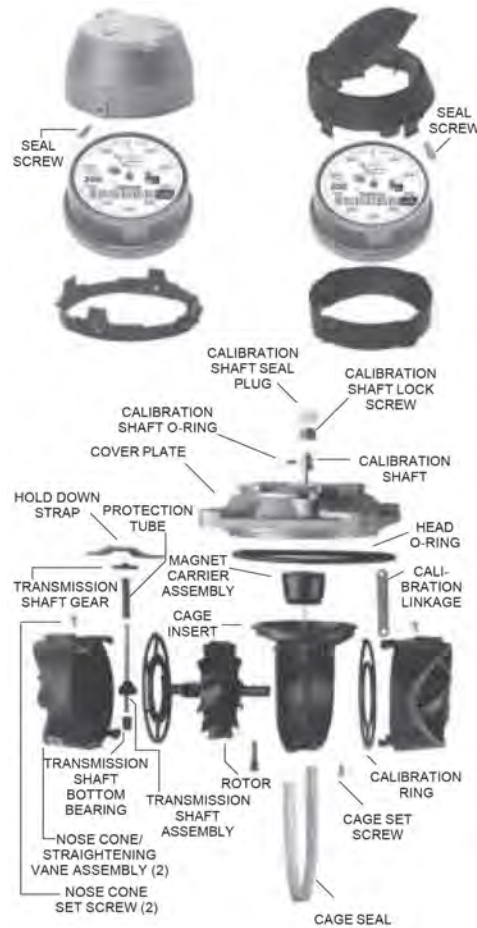
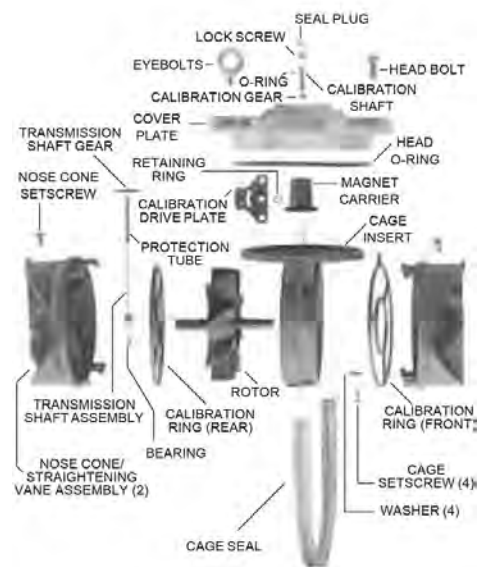
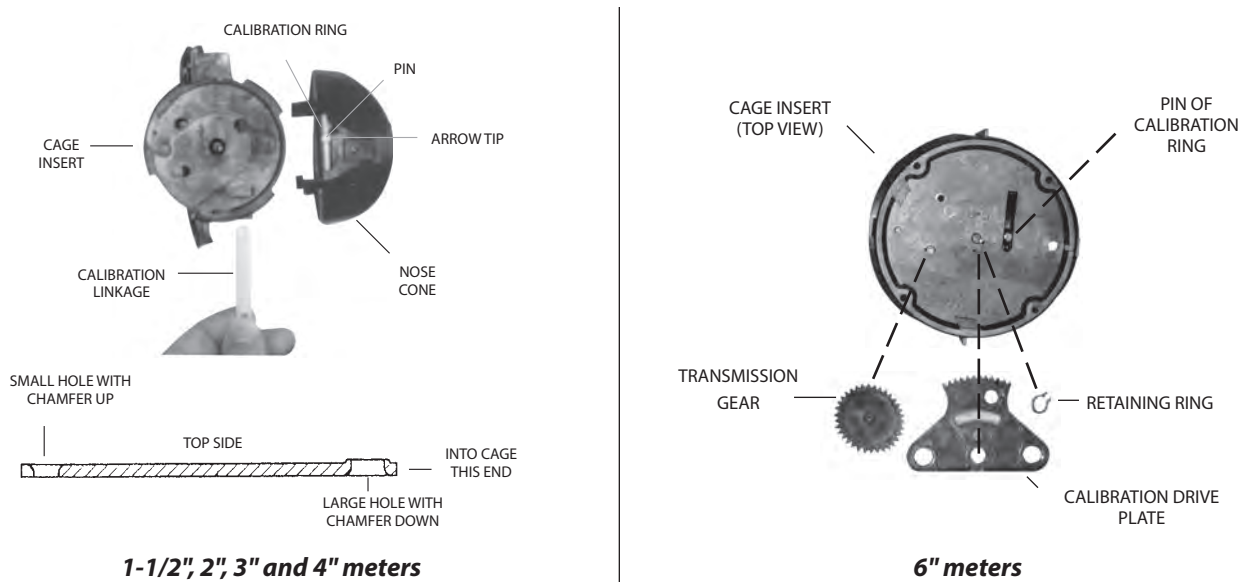
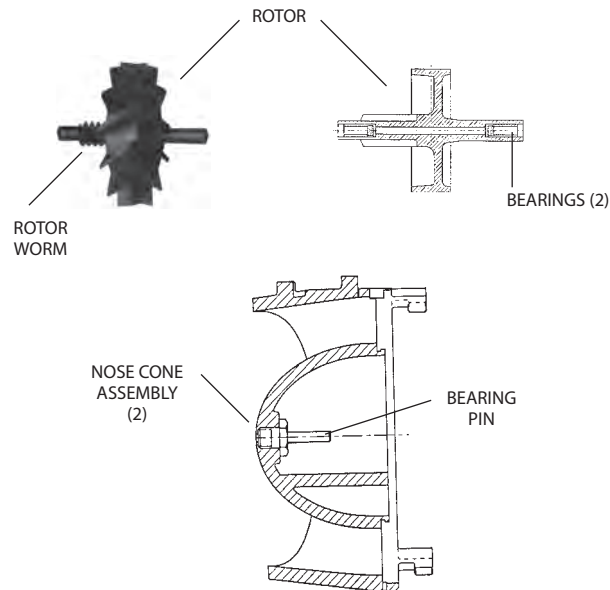

Figure 3: Removing the meter head assembly, 1-1/2" to 4" meters
Figure 4: Removing the meter head assembly, 6" meters
Figure 5: Calibration ring/linkage assemblies
Figure 6: Rotor and nose cone assembly (1-1/2", 2", 3", 4" and 6" turbo head assemblies)
2. Remove the shroud by rotating the register assembly counterclockwise until it stops. This provides clearance so it can be lifted off the measuring element assembly. See Figure 3 and Figure 4.
3. To remove the measuring element from the cover, remove the calibration shaft seal plug and the lock screw. See Figure 3 and Figure 4.
6. The measuring element insert can be removed from the cover plate for service or replacement by removing the cage set screws (quantity of one for 1-1/2" to 4", quantity of 4 for the 6" size). See Figure 3 and Figure 4.
1. To remove the magnet carrier from the measuring element insert, lift it off the stainless steel pin. See Figure 3 and Figure 4.
3. Remove the hold-down strap. See Figure 3 and Figure 4.
The straightening vanes are an integral part of the upstream and downstream nose cone assemblies. See Figure 3 and Figure 4.
2. Take hold of the nose cone/straightening vanes and turn them clockwise, thereby disengaging the calibration linkage from the tab on the calibration ring and unlocking the bayonets of the nose cones from the cage (see Figure 5).
4. Remove the retaining ring that holds down the calibration drive plate, located under magnet carrier magnet. See Figure 4 and Figure 6. Remove drive plate. Rotate calibration ring until pin clears slot of cage. Take hold of the nose cone/straightening vanes and turn clockwise. Pull the nose cone assembly out from the measuring element insert. Remove rotor assembly.
To remove the rear nose cone, you must remove the transmission shaft. See Figure 3, Figure 4, Figure 5 and Figure 6.
To disassemble the calibration ring assembly (see Figure 3, Figure 4, "Removing the Meter Head" on page 12 and "Removing the Straightening Vanes/Nose Cone" on page 13):
1. Align the pin on the perimeter of the calibration ring with the arrow tip on the nose cone assembly (see Figure 5).
2. For 1-1/2", 2", 3" and 4" sizes, install the calibration linkage into the cage with the larger hole to engage the calibration ring tab, with the side of chamfered edge of the hole towards the nose cone assembly (see Figure 5).
Check the rotor worm and blades for signs of damage and wear. Also inspect the bearing bushings in the front and rear shaft. If damage or wear has occurred, replace the part (see Figure 6). If water deposits are found, remove any mineral deposits from the rotor blade surfaces, cage insert interior disc, and nose cone vanes and mating surfaces.
Inspect the rotor bearing pins in the straightening vane and nose cone assembly for signs of damage and wear (see Figure 6). The spherical end of the bearing pin must not show any drag lines and/or wear.